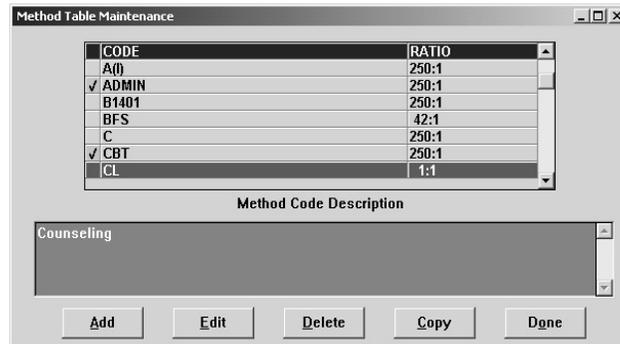
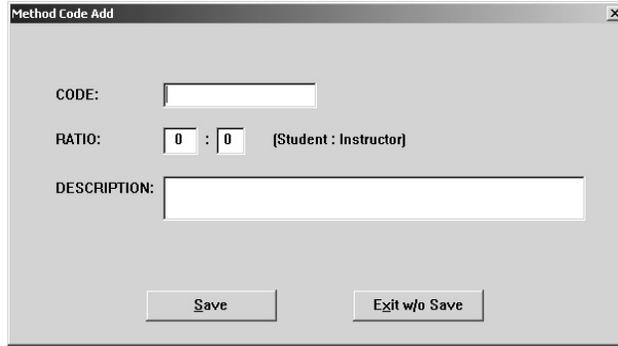
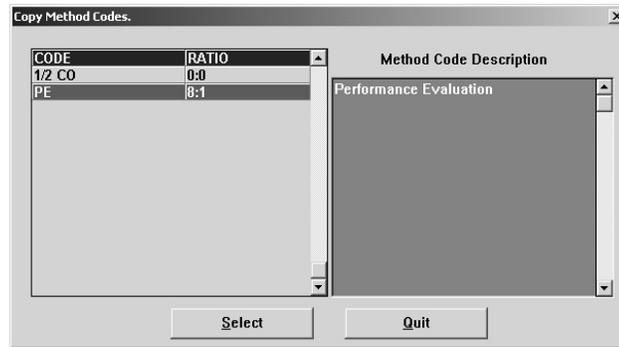

Figure 6-04. Method Table Maintenance
Figure 6-05. Method Code Add
Figure 6-06. Copy Method Codes
1. From the Tables drop-down menu, choose Method Codes. The Method Table Maintenance selection list box (Figure 6-04) opens.
- From the Method Table Maintenance selection list box (Figure 6-04), click on **Add**. The Method Code Add dialog box (Figure 6-05) opens.
1. From the Method Table Maintenance selection list box (Figure 6-04), highlight the desired record by clicking on it.
2. Click on **Edit**. A dialog box similar to the one in Figure 6-05 opens.
1. From the Method Table Maintenance selection list box (Figure 6-04), highlight the desired method by clicking on it. Remember that you can delete records for only those methods you have added to the list.
1. From the Method Table Maintenance selection list box (Figure 6-04), click on **Copy**. The Copy Method Codes selection list box (Figure 6-06) opens with a list of all other methods added to other courses on the same computer or server as your MCAIMS installation.